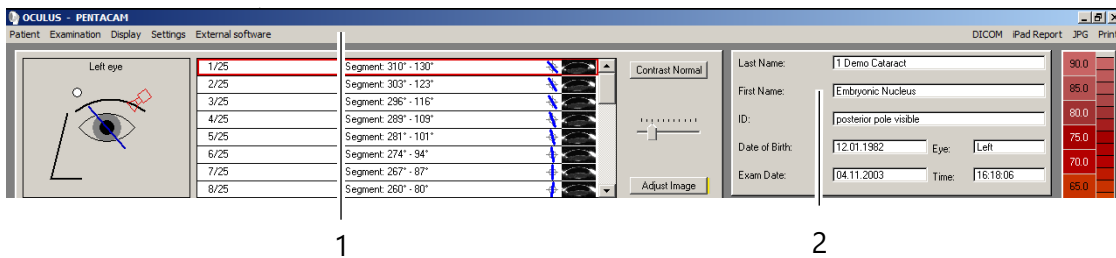

Fig. 8-1: Pentacam® program menu (upper section)
- ➔ In the Pentacam® program (*fig. 8-1, page 30*) select the menu item [Examination] and click [Scan].